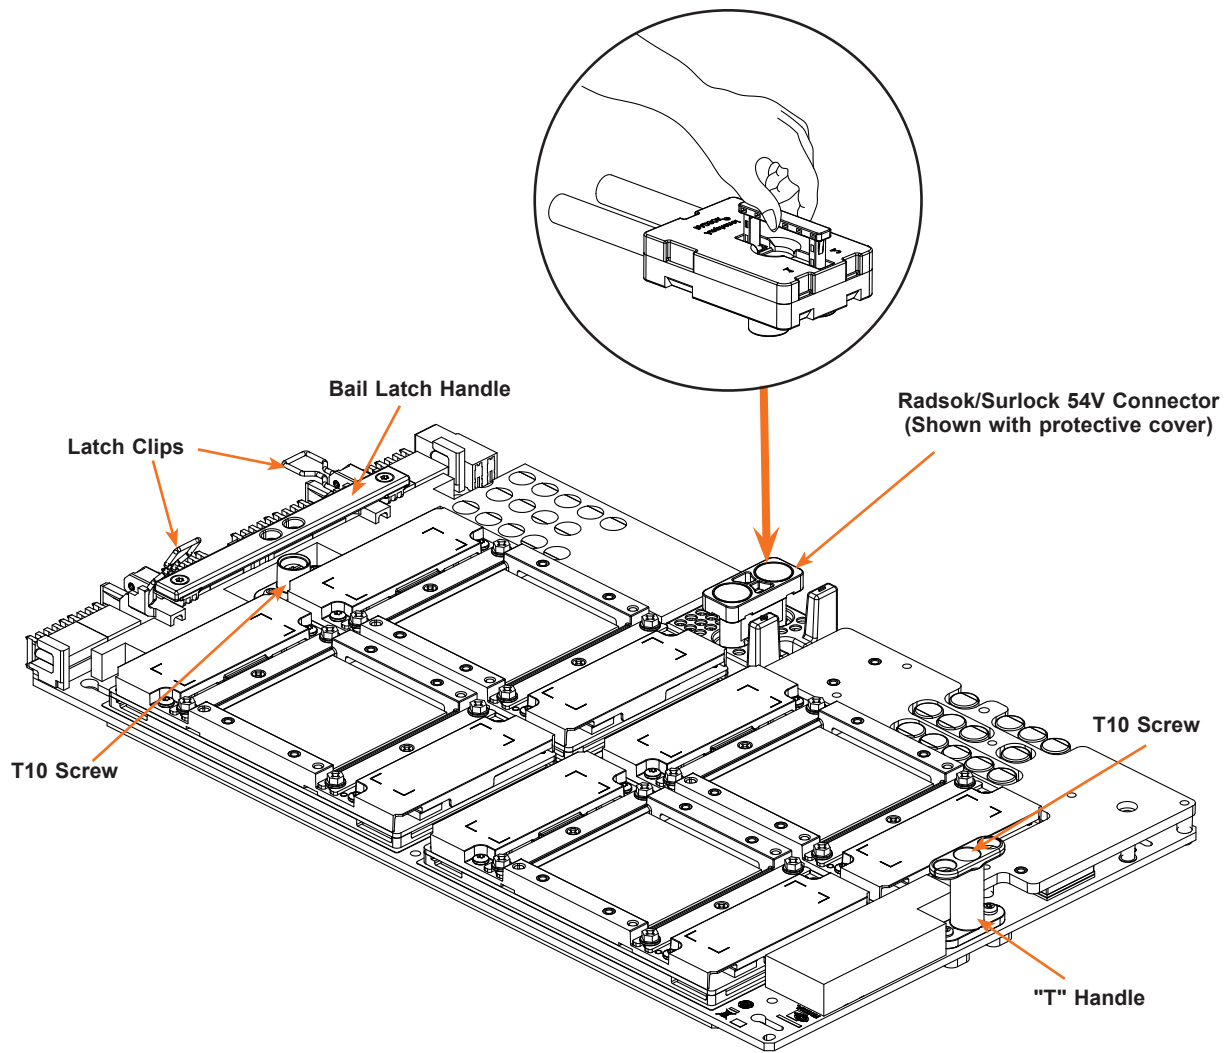

Figure 3-12. Replacing GPU Baseboard Module
- **BMC > Server Health > NVMe SSD** – Shows the temperatures of all NVMe drives, as in Figure 3-12.